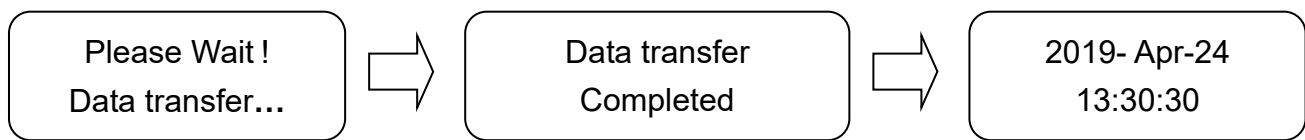

Figure 29
- b) After completing a sterilization cycle, the data will be stored to USB flash drive; and the recorder returns to stand-by mode. The sequences of storage message are shown in the Figure 29.